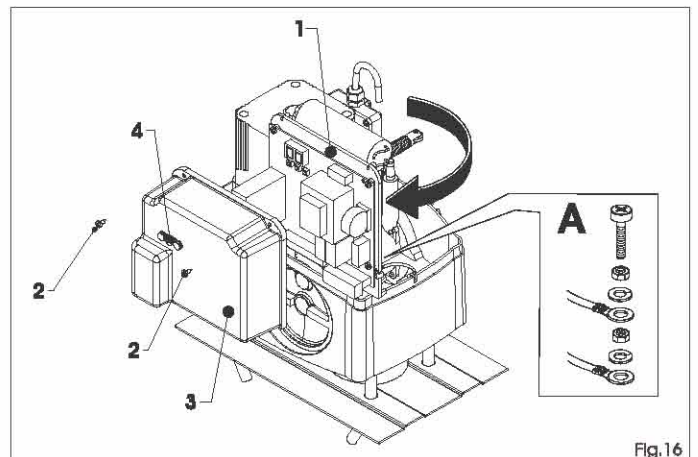

Fig.16
Connect the earth cables as shown in Fig.16 ref.A.
In the "C" version gearmotors, the electronic control unit is fitted to an adjustable support (Fig. 16 ref. 1) with transparent lid (Fig. 16 ref. 3). The board programming push buttons (Fig. 16 ref. 4) have been located on the lid. This allows the board to be programmed without removing the lid. For correct connection of the control unit, follow indications in the specific instructions.